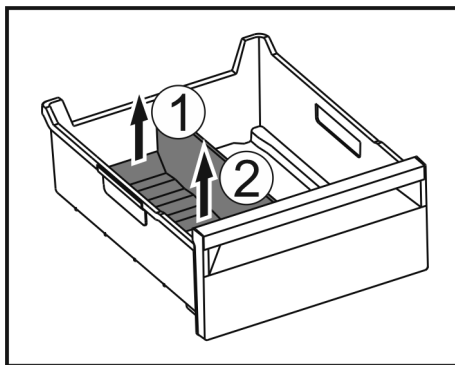

Fig. 140
- ▶ 提升冰格分隔器后部。Fig. 140 (1)
- ▶ 向上取出冰格分隔器。Fig. 140 (2)